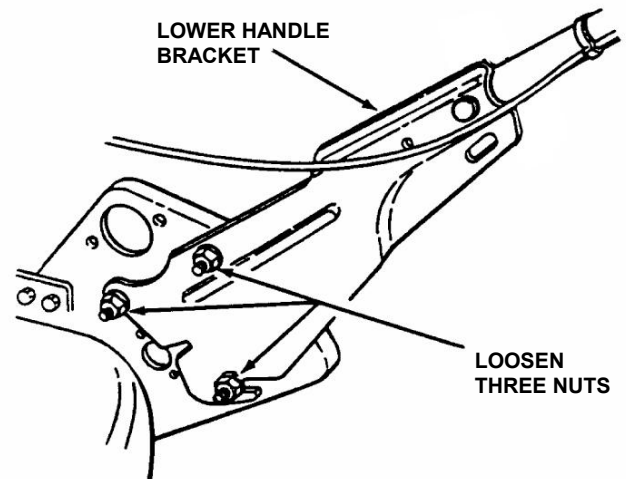
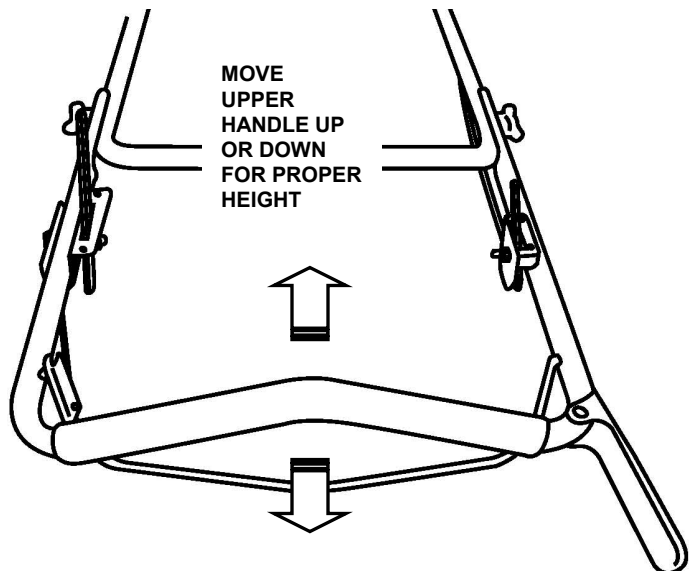

FIGURE 4
FIGURE 5
STEP 4: To adjust handle height loosen bolts on both lower handle brackets. See Figure 4. Move handles up or down for desired height. See Figure 5. Tighten all bolts and nuts on all handles and brackets.